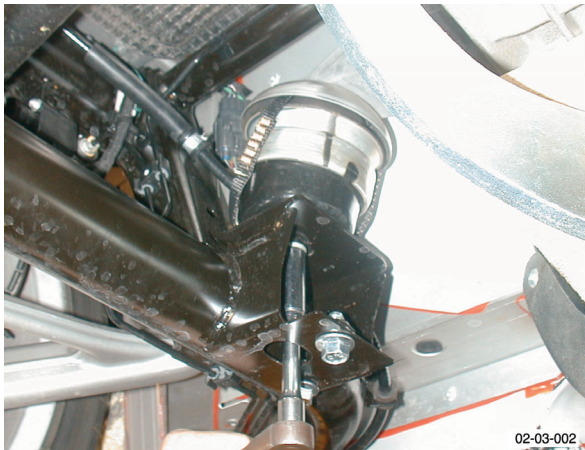

Fig. 1
7. Remove nut from hydromount to subframe (see Fig. 1).